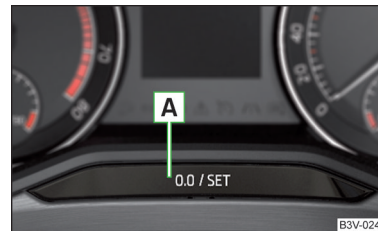

Fig. 22
» Press button **A** » Fig. 22 on page 41.
- » Press and hold the button **A** » Fig. 22 until the time is shown in the display.